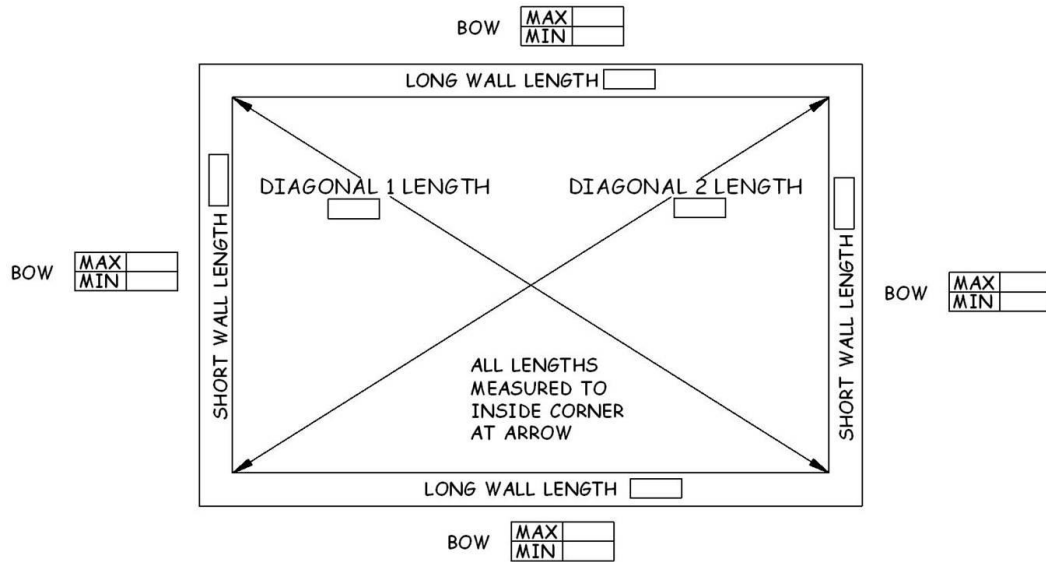

Figure 3-2. Wall Layout Diagram.
3. **Create a Rectangle.** With a long steel tape, “burn a foot” and measure the lengths (between string lines) of the opposite walls at each end (see Figure 3-2). Record the